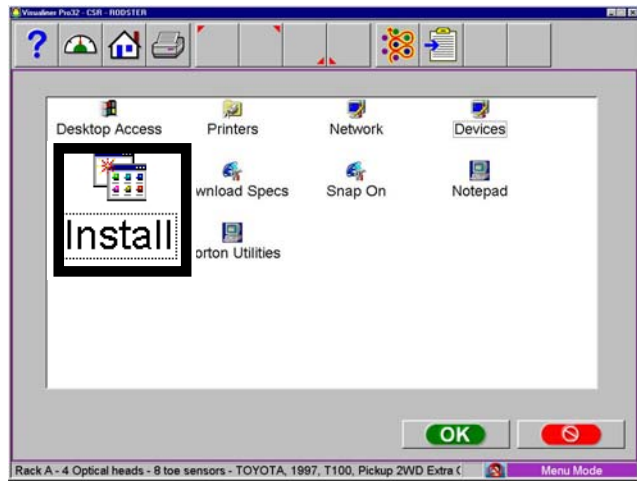

Figure 3-19
- 8. Double click on the “Install” icon from the Windows Utilities. (Figure 3-19)